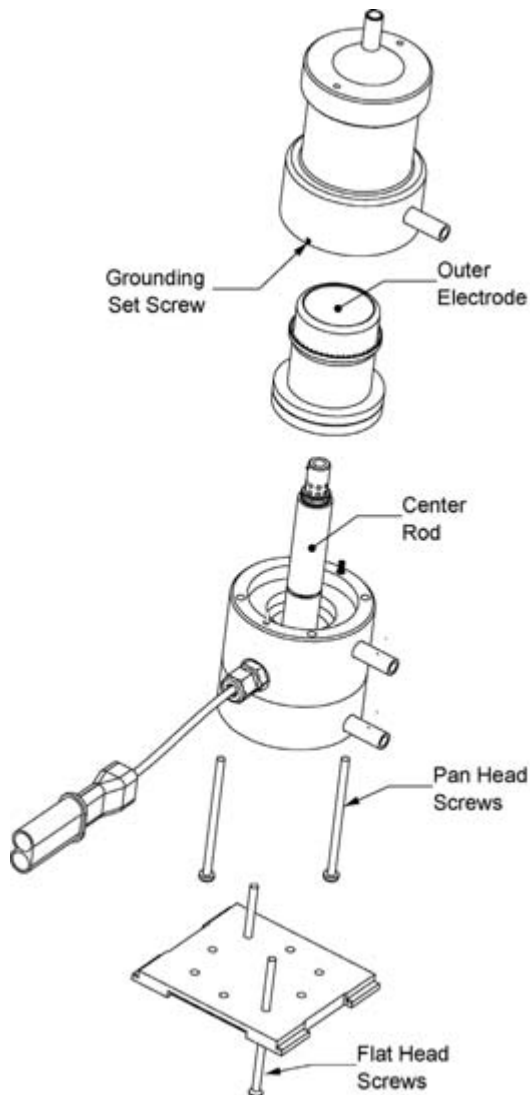
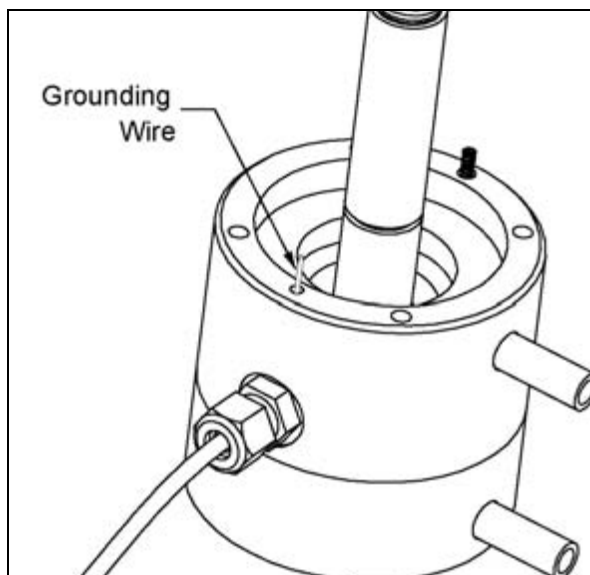

Figure 6-4
Figure 6-5
To clean the inner rod and inside of the outer tube, follow these steps and refer to Figure 6-4:
6. Using a 0.050 inch Allen-wrench, loosen the grounding set screw located above the high-voltage cable connector (see Figure 6-4).
Make sure when you re-assemble the base of the Nano DMA that the ground wire (Figure 6-5) is secured by the ground set screw (Figure 6-4). Use the 0.050 inch Allen-wrench to tighten the set screw. Failure to do this will result in improper grounding and can produce unpredictable measurements.